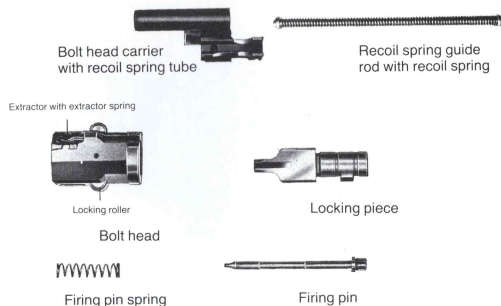

Figure 16D
c. Draw the locking piece, firing pin, & firing pin spring out of the bolt carrier. (Figure 16D)